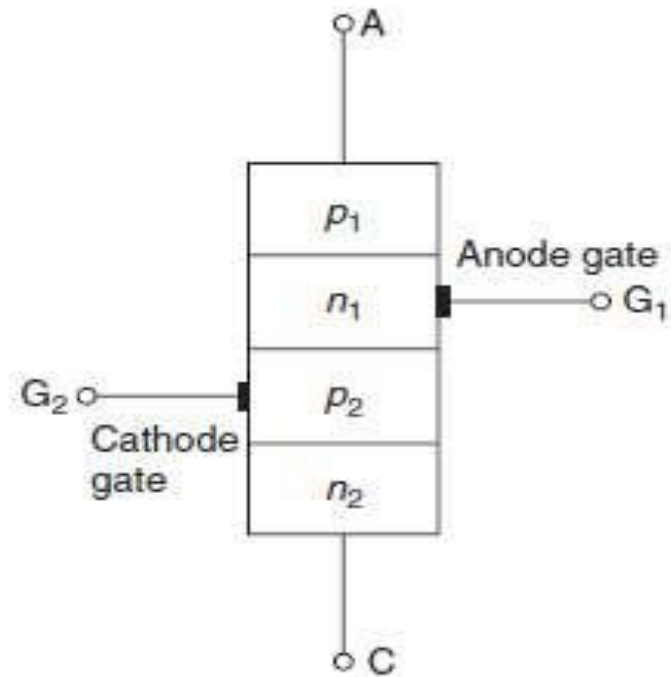

Figure 8-6 Schematic diagram for a semiconductor-controlled switch
- Few SCRs have two gate leads, G_2 attached to p_2 and G_1 attached to n_1 , as shown in Fig. 8-6. This configuration is called the semiconductor-controlled switch (SCS).